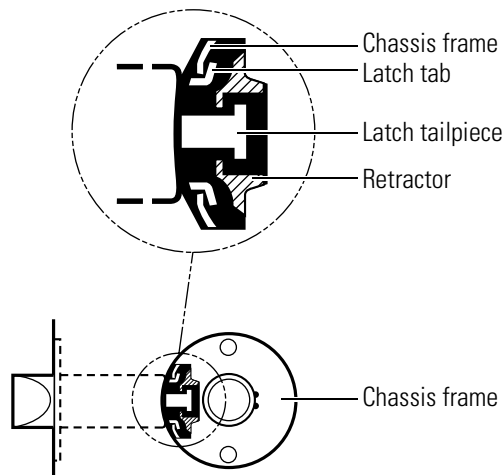

Figure 3.25 Engaging the retractor in the latch
2. Align the chassis with the latch. Make sure that the latch tabs engage the chassis frame and the latch tailpiece engages the retractor, as shown in Figure 3.25.